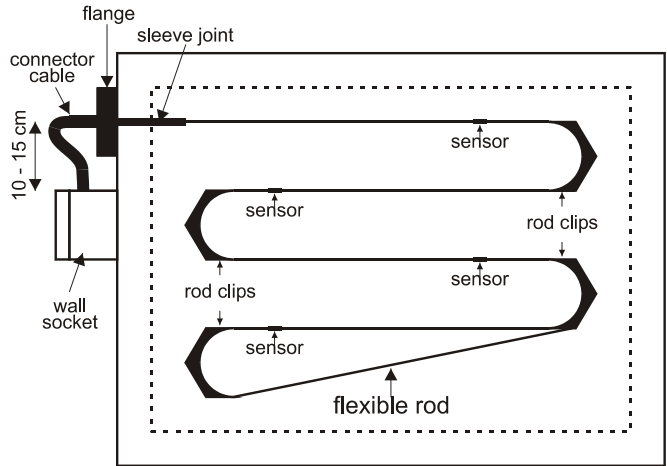

Fig. 2. Mounting the C7085A Temperature Sensor
3. Attach and secure the wall socket using the self-tapping screws (included in the shipment) approx. 10 to 15 cm from the flange (see Fig. 2).